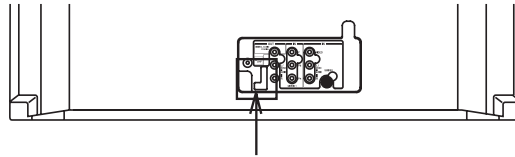

Fig. 1
2. Using the Serial Communication Change JIG (**JG205**), connect the set to personal computer. (**Refer to Fig. 1**)